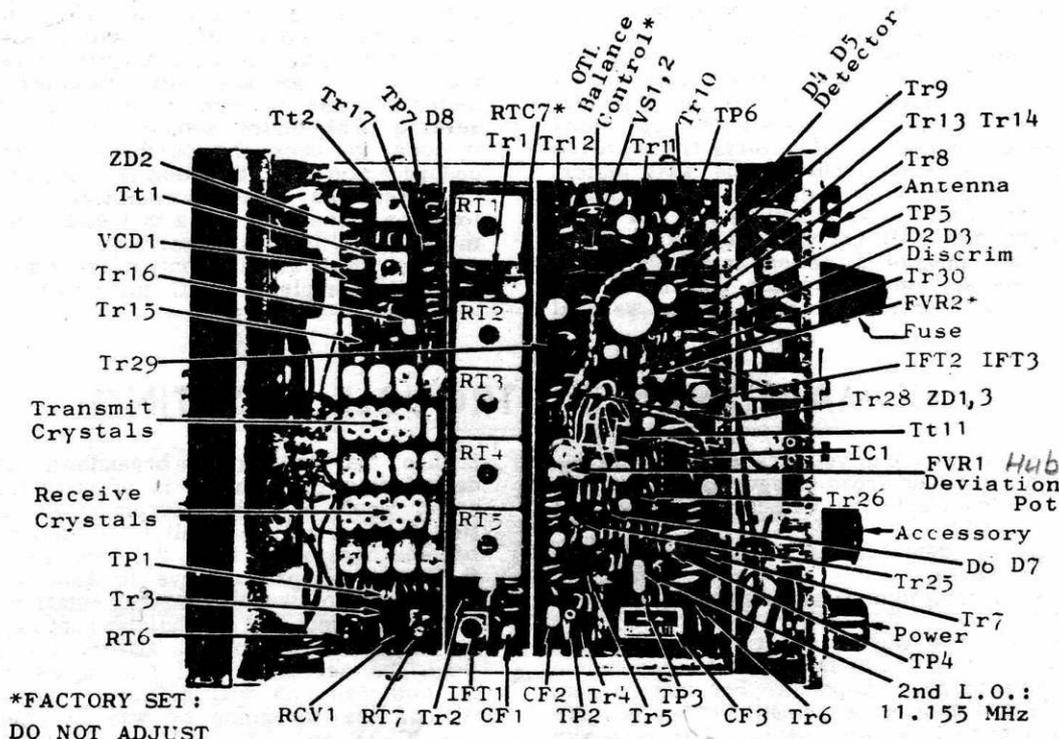

Fig. 7 TOP INSIDE SECTION OF UNIT
Procedure: return chassis to upright position (crystal board up). Locate deviation control, FVR1, (see Fig. 7) on rear board. It may be upright or lying parallel to the board. Key the microphone and speak normally into it. A series of "fives" is a good test. While speaking into the microphone, note the deviation on the scope or meter of the deviation meter. By adjusting the deviation pot, you may vary the deviation from + 5 KHz (narrow band) to +15 KHz (wide band) to suit your own preference.
2. Locate the two discriminator transformers IF-2 and IF-3 (See location photo Fig. 7).